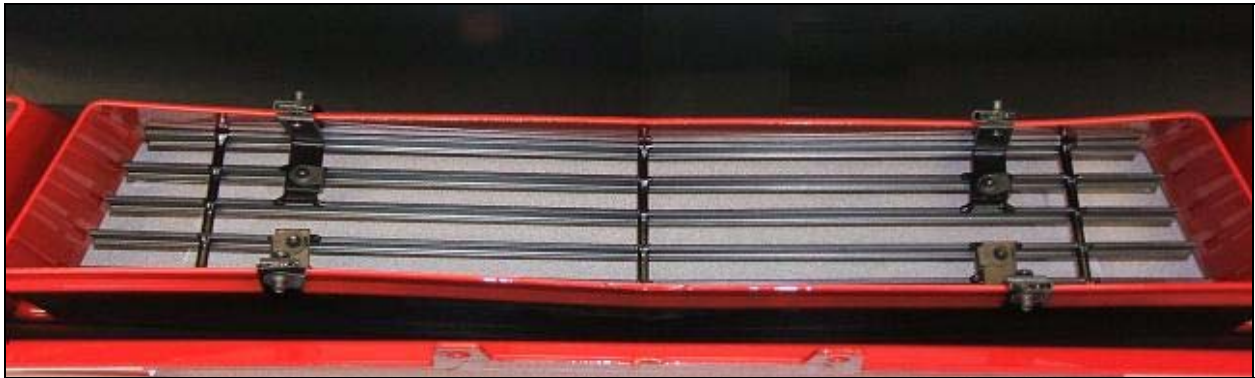

Figure 11
15. Insert the Center Grille assembly into the front of the lower center opening of the fascia. Install four (4) Pinch Brackets. Press the Center Grille forward and align the Grille in the lower opening with equal distance at the left and right ends. Tighten the top two (2) Pinch Bracket screws. Position the lower Pinch Brackets onto the thin lip of the opening and tighten the bottom two (2) Pinch Bracket Screws. Refer to Figure 11.